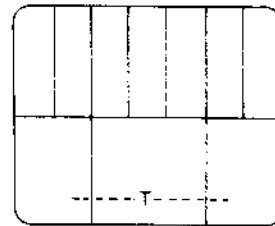

Fig. 5-7 On the TV screen
- 3) Press the TRACKING button  or  on the front panel until "T" mark can be seen in the center position as shown in Fig. 5-7.